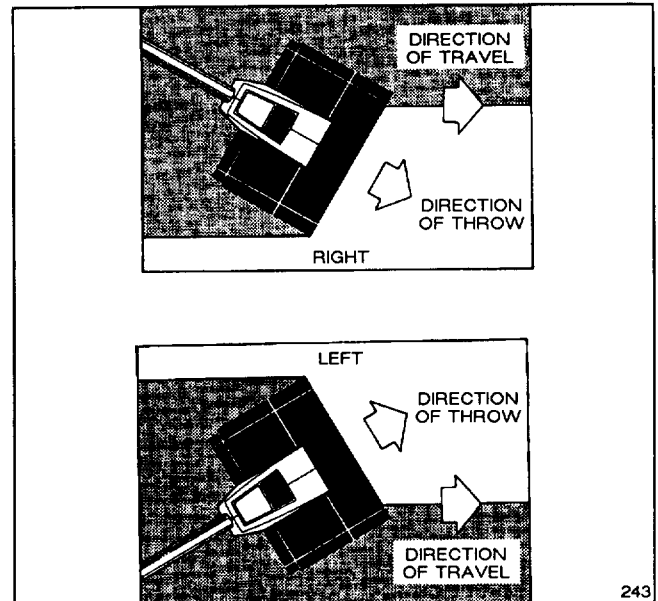

Figure 7
2. Direct the snow to the right or left by holding the Power Shovel at a slight angle (Fig. 7).